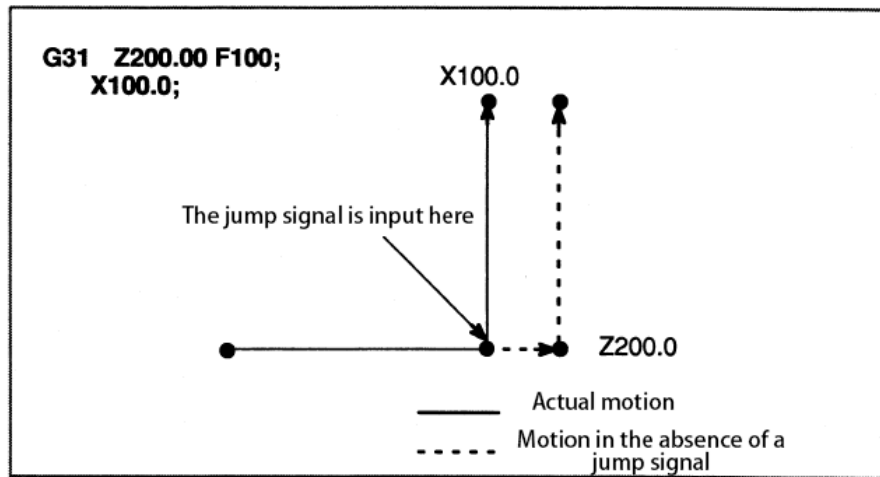

Figure 3-14
2. The next program segment of the G31 is the absolute coordinate programming of 1 axis, as shown in Figures 3-14